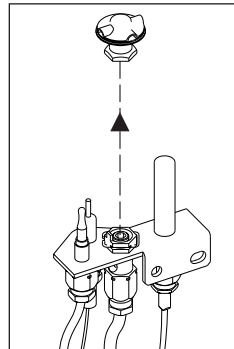

fig. 1
- 3 The pilot hood is held in place by spring pressure. Remove the hood by pulling it directly up from the pilot bracket (fig. 1).